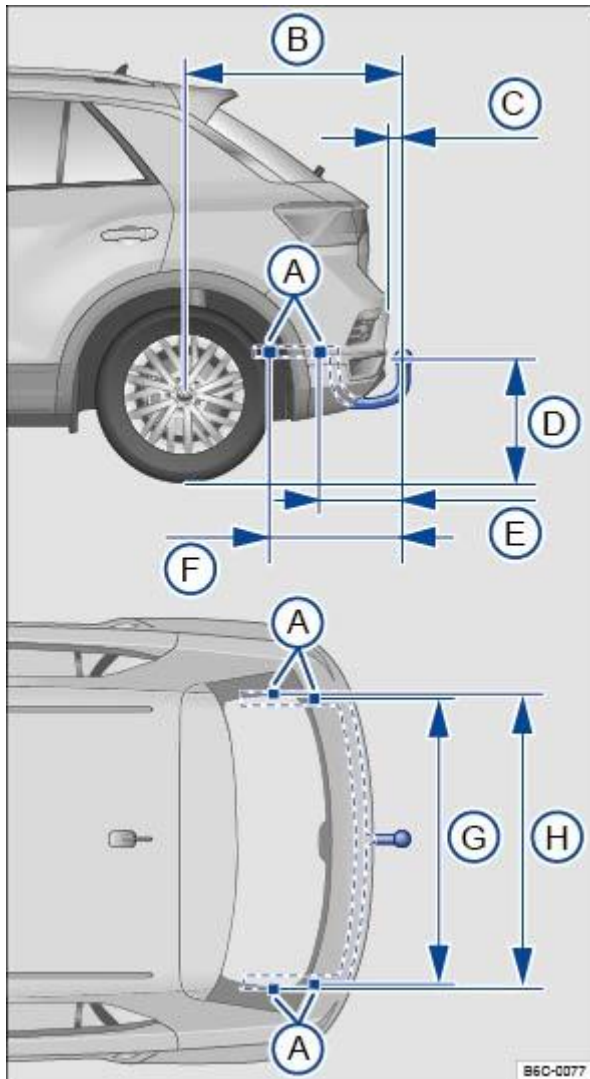

Fig. 157 Dimensions and mounting points for retrofitting a towing bracket.
The dimensions ⇒ Fig. 157 must be observed in all cases when retrofitting a towing bracket. Always observe the minimum distance given from the middle of the ball head ① to the surface of the road. This also applies when the vehicle is fully laden, including maximum drawbar load.